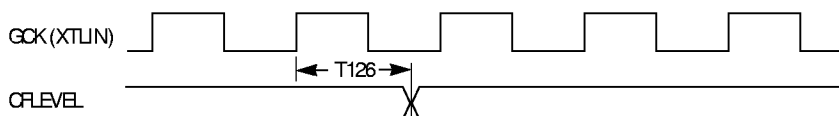

Figure 9-3 Timing Diagram - CFLEVEL
- Figure 9-3, Timing Diagram - CFLEVEL